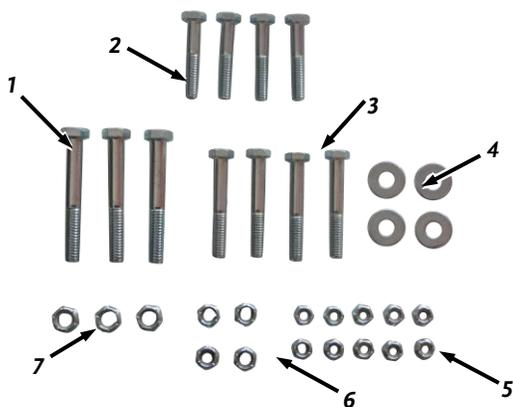

Figure 7
**Enclosure Hardware (Figure 7):**
(Use Enclosure Hardware Set, see Figure 7 and Product Package Hardware, see Figure 3)